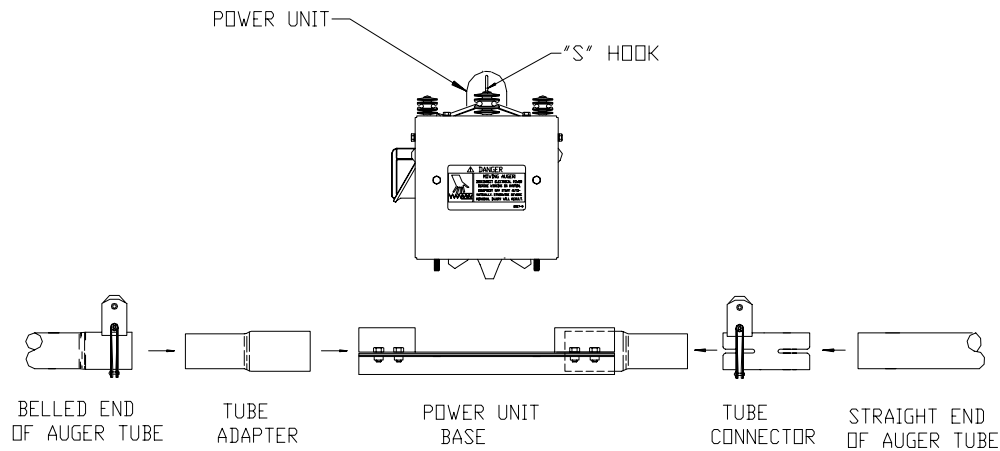

Figure 23. (Side View): Standing *outside* the loop
5. Remove the Power Unit from the Base Connector Weldment and install the Base Connector Weldment, as shown in **Figure 23**.
Slide the belled end of the Tube Adapter into the incoming side of the Power Unit Base. Tighten the four bolts to secure the Tube Adapter to the Power Unit Base. See **Figure 23**.
8. Insert the belled end of the next tube section over the Tube Adapter, as shown in **Figure 23**. Secure using a Clamp/Anti-Roost Bracket.